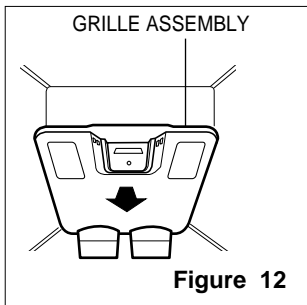

Figure 12
1. Pull out the grille assembly. (Figure 12)